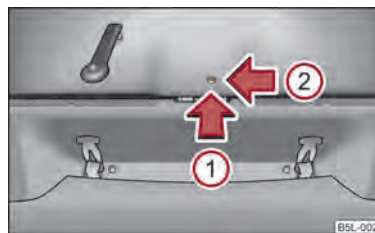

Fig. 16 Emergency unlocking of the boot lid
- Insert a screwdriver or similar tool into the opening in the trim in the direction of arrow  \Rightarrow fig. 16 to the stop.